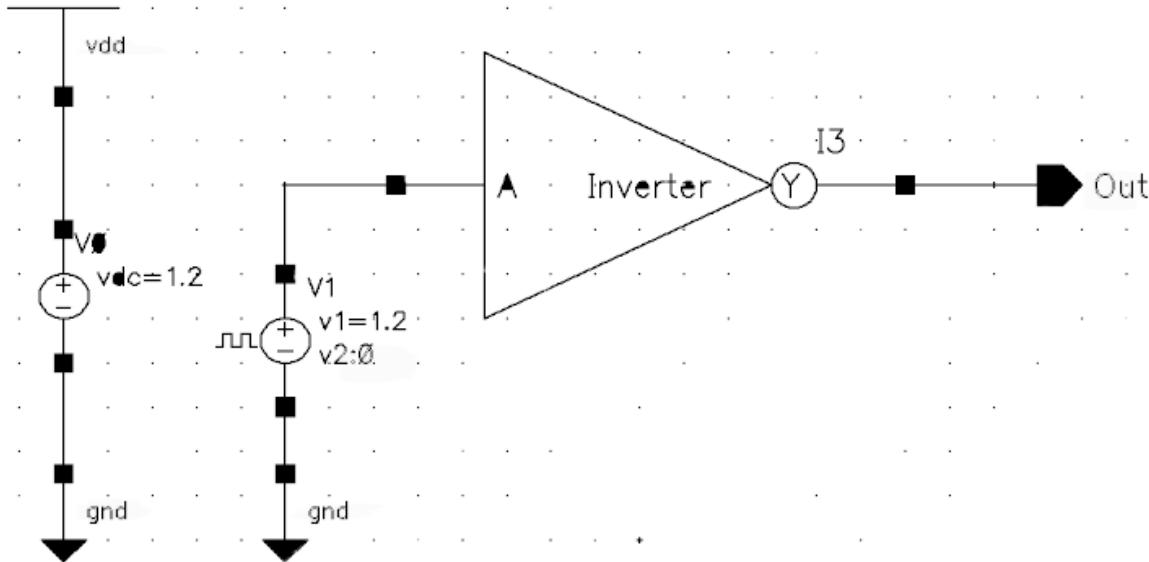

Figure 1.8: Inverter Test Schematic
To test the inverter, we need to create a new schematic cell view called **INVERTER_TEST**. To simulate the design, add the inverter symbol, signal sources, power supplies, and loads as illustrated in Fig.1.8. Follow the steps given in Section.1.4.1 for Test schematic creation.
- In this case we want to sweep the input voltage source which is out in Fig.1.8.